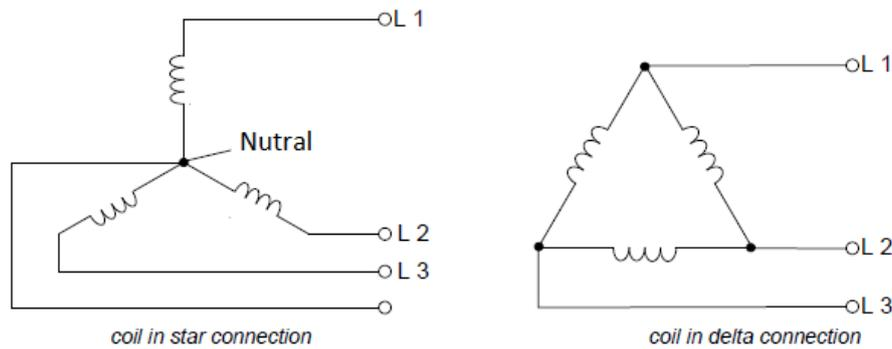

Figure 10.2: Star and Delta connections
Two connection types are common for the coils of AC generators, the star connection, and the delta connection, see figure 10.2. The phase (ph) and the line-to-line (L) relations in Star and Delta connections (considering ABC sequence) are given in Table 10.A